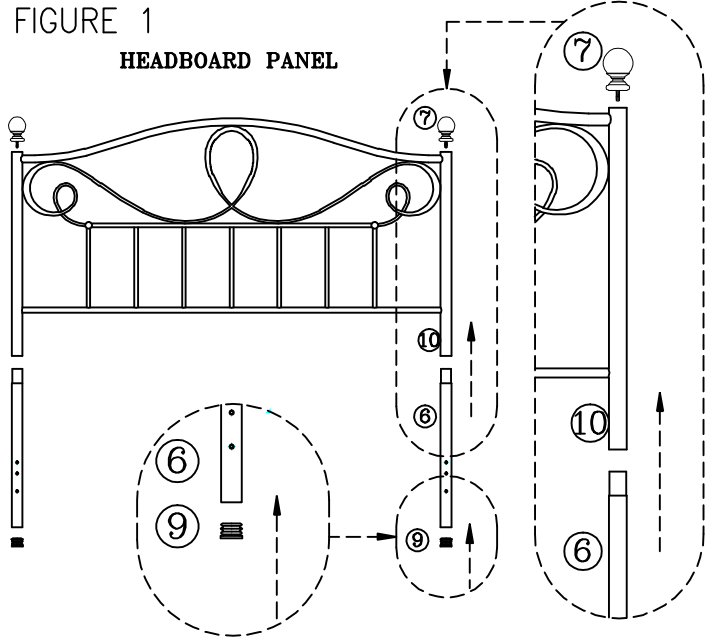

FIGURE 2
- Insert foot ring (8) into footboard panel post (11). (SEE FIGURE 2)
- Secure foot ring (8) with plastic glide (9).
- Screw in finials (7) on top of footboard Panel (11). (SEE FIGURE 2)